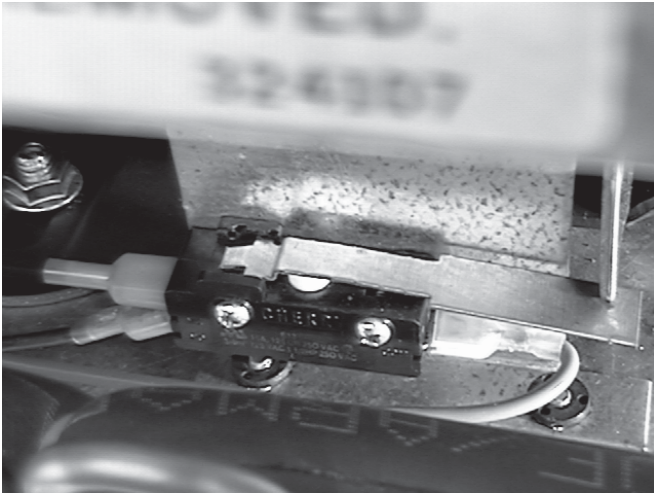

Figure 37. Torque Switch Bracket
4. Remove the two cap screws from the torque switch bracket and move the bracket to the side. Figure 37.